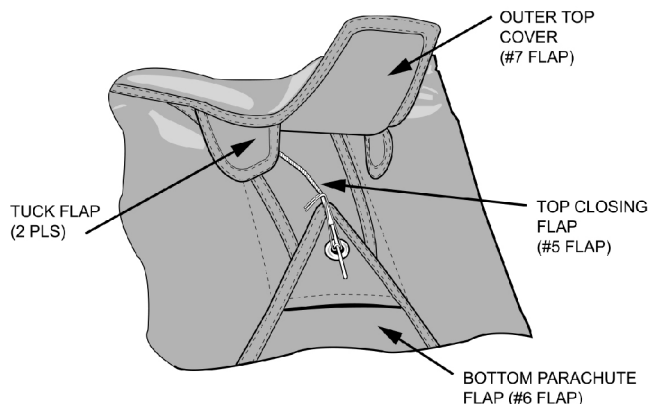

Figure 1. Tacking Tuck Flaps
a. Tack using Tape, Lacing & Tying 12-in. long and a curved needle. Tack through tuck flap seam on outer top cover to top closing flap seam using one turn, single, tied with a surgeon's knot, followed by a square knot. Trim off excess. Repeat process on other side (Figures 1 and 2). (QA)